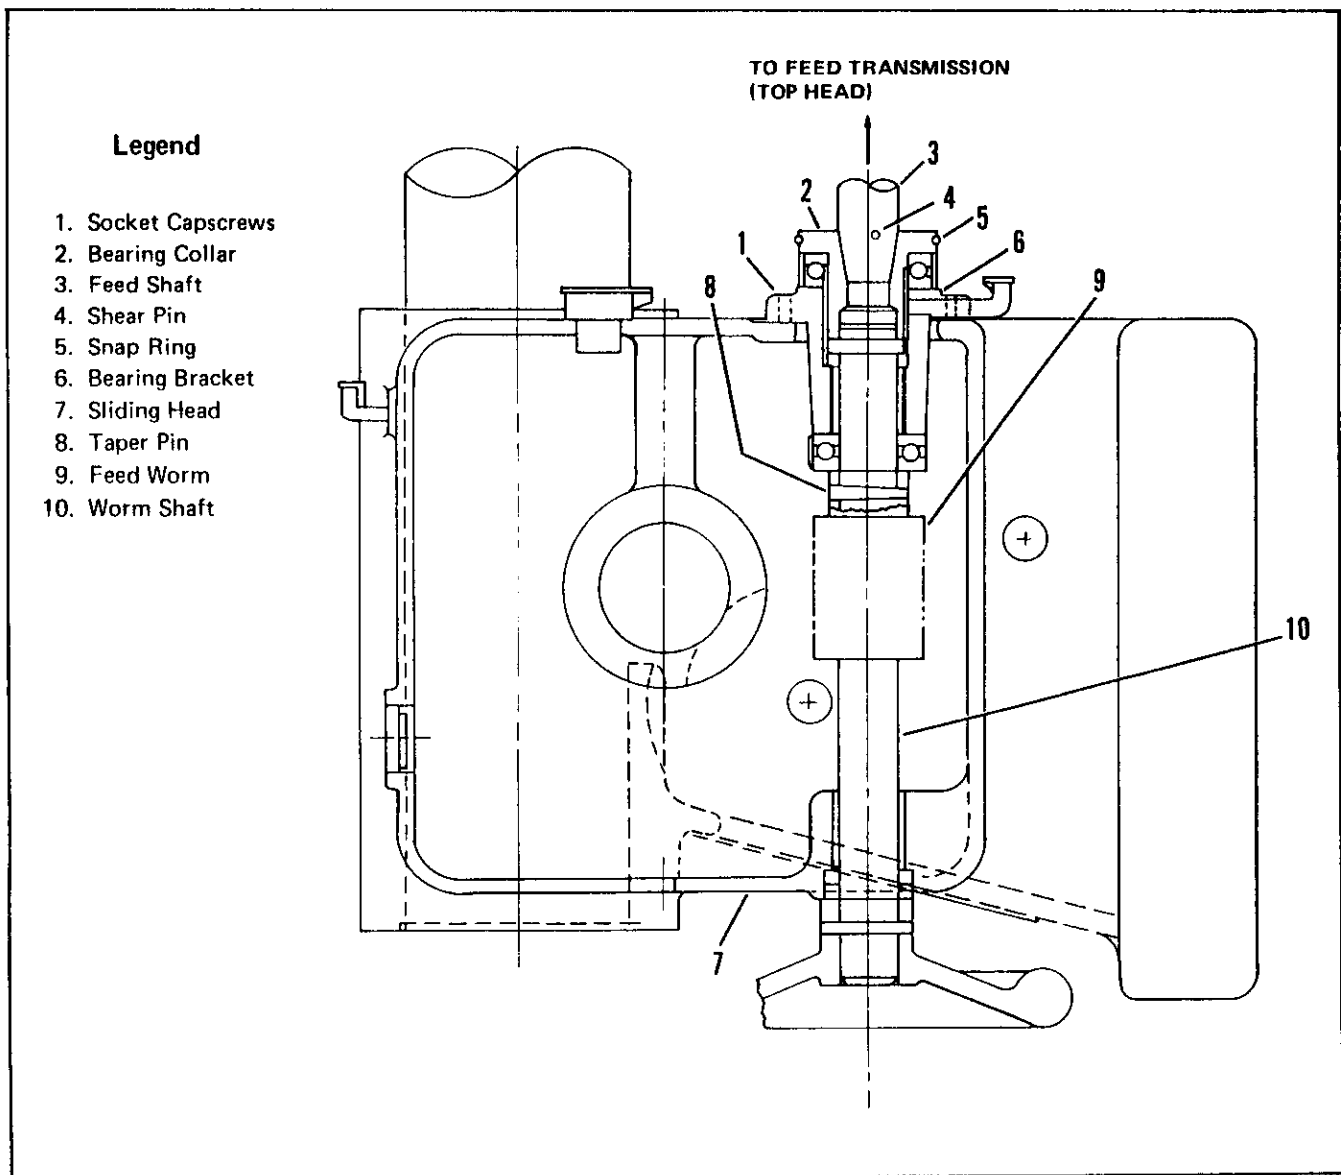

Figure M-1. Cross Spindle Removal
Feed Transmission Removal (Figure M-1)
10. Remove the taper pin (8, Figure M-1) and slide the feed worm (9, Figure M-1) down to the lowest point on the worm shaft (10, Figure M-1).
12. Remove the three screws (6) and nut (7) from the trip rod support (8).
3. Remove the taper pin (8, Figure M-1) and slide the feed worm (9, Figure M-1) down to the lowest point on the worm shaft (10, Figure M-1).